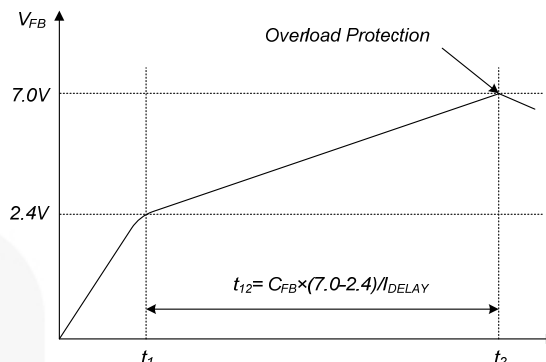

Figure 20. Overload Protection
4.1 Overload Protection (OLP): Overload is defined as the load current exceeding its normal level due to an unexpected abnormal event. In this situation, the protection circuit should trigger to protect the SMPS. However, even when the SMPS is in normal operation, the overload protection circuit can be triggered during the load transition. To avoid this undesired operation, the overload protection circuit is designed to trigger only after a specified time to determine whether it is a transient situation or a true overload situation. Because of the pulse-by-pulse current limit capability, the maximum peak current through the SenseFET is limited and, therefore, the maximum input power is restricted with a given input voltage. If the output consumes more than this maximum power, the output voltage (V_{OUT}) decreases below the set voltage. This reduces the current through the opto-coupler LED, which also reduces the opto-coupler transistor current, increasing the feedback voltage (V_{FB}). If V_{FB} exceeds 2.4V, D1 is blocked and the 2.0 μ A current source starts to charge V_{FB} slowly up. In this condition, V_{FB} continues increasing until it reaches 7.0V, when the switching operation is terminated, as shown in Figure 20. The delay for shutdown is the time required to charge CFB from 2.4V to 7.0V with 2.0 μ A. This protection is implemented in Auto-Restart Mode.